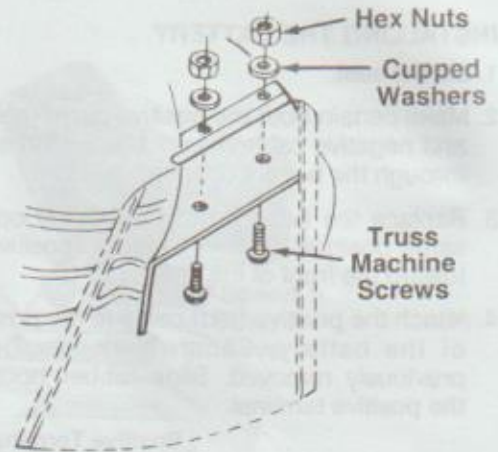

FIGURE 3
2. Place the chute deflector in position as shown in figure 3. Secure with hex machine screws, cupped washers and hex jam nut.